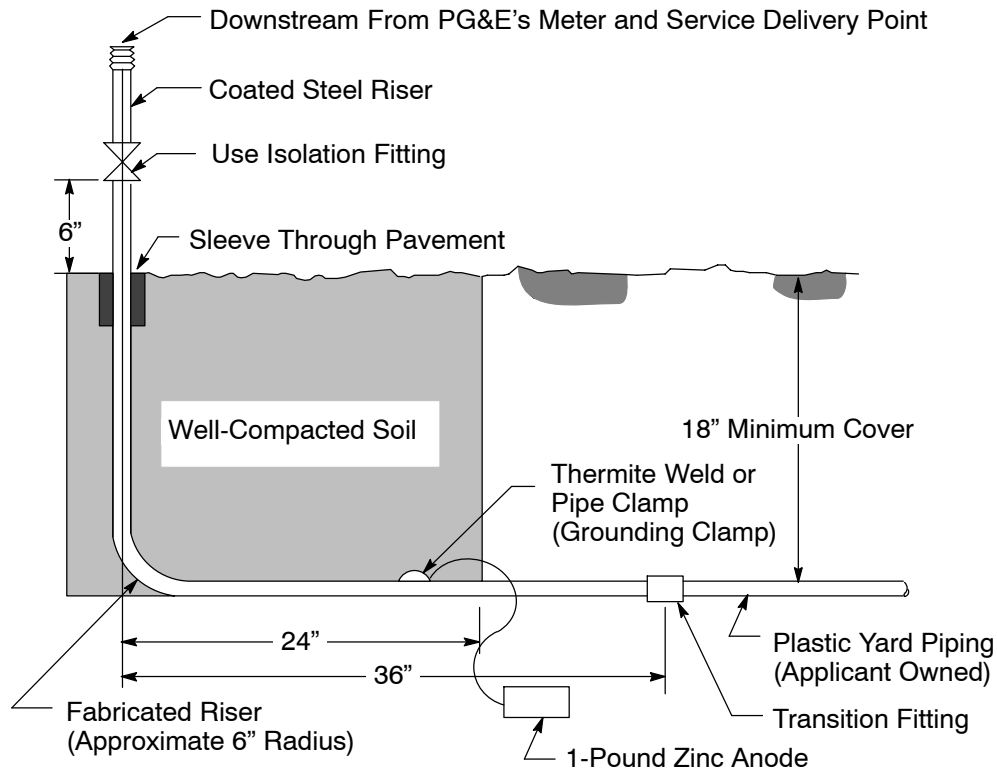

Figure 2-30
PG&E recommends that applicants use the gas-riser configuration shown in Figure 2-30, "Recommended, Applicant-Owned Riser and Pipe," found on Page 2-48, when they install above-ground gas pipe that transitions to underground gas pipe. The preferred riser for most applications is a noncorroding, prefabricated riser.
2. Applicants must ensure that all required cathodic protection is in place and documented as illustrated in Figure 2-30 on Page 2-48.
Notes in reference to Figure 2-30.